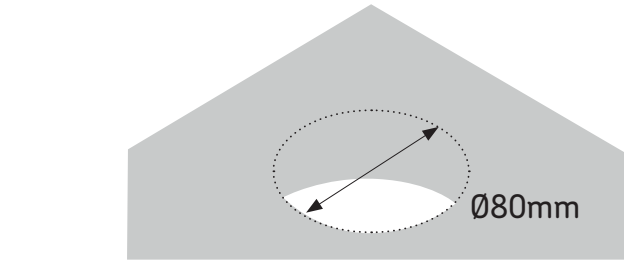

Fig. 1
- Cut a suitable hole in the mounting surface as per the cut-out details. (See Fig. 1)